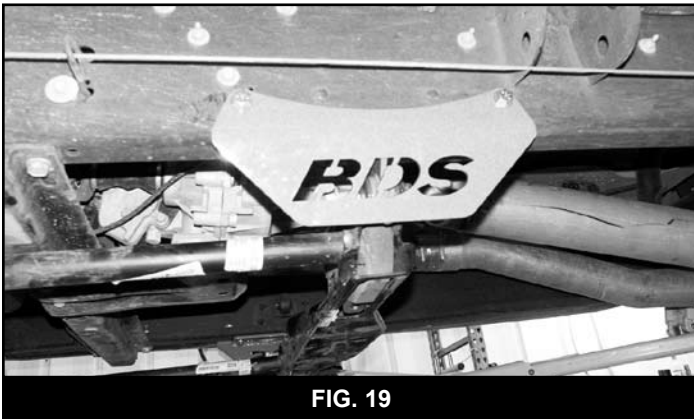

FIG. 19
67. After drilling the holes, attach the brackets to the frame with 7/16" x 1-1/4" bolts, nuts and SAE flat washers from bolt pack #541 (Fig 19). Torque bolts to 35 ft-lbs.